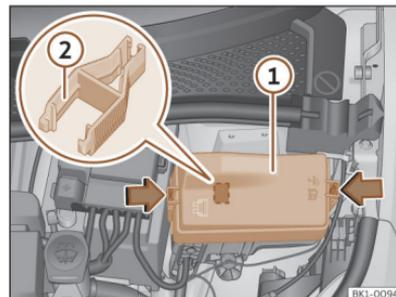

Fig. 187 In the front compartment: fuse box cover.
- Press the locking tabs to unlock the fuse box cover >>> **Fig. 187** ①.
In the fuse box there may be plastic tweezers for removing fuses >>> **Fig. 187** ②.